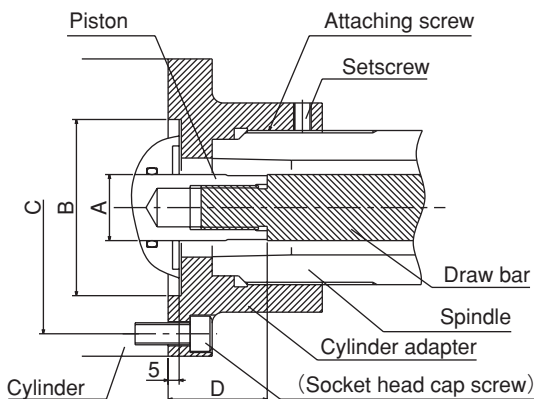

Fig. 9 Cylinder adapter attaching part
- Bring the cylinder as close to the lathe spindle support as possible. The attaching method of the cylinder adapter and the measuring method of run-out are illustrated in the drawings below. (Fig. 9, Table 9)